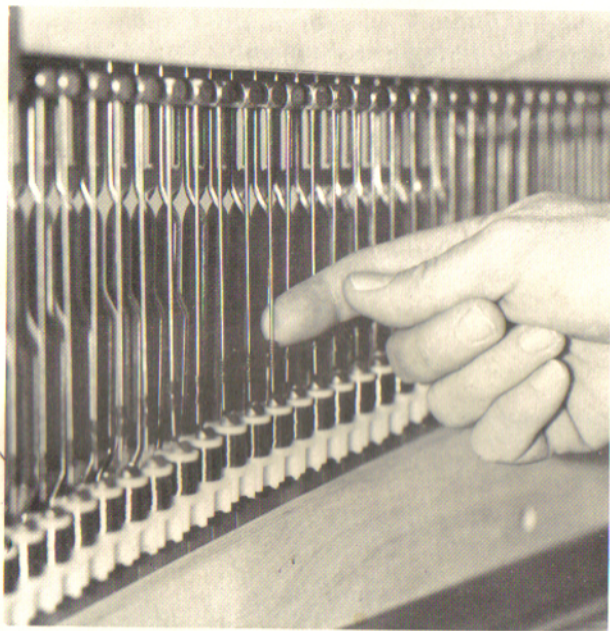

FIGURE 13
2. Rotate the harp assembly up: it will pivot on the strap hinges located on each end. The harp assembly will stand free on its back edge. (Fig. 13.)